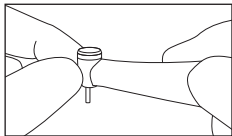

Fig. 5
- 4) After the handpiece rotation has completely stopped, touch the handpiece head to confirm it is NOT heating abnormally (Fig. 5).